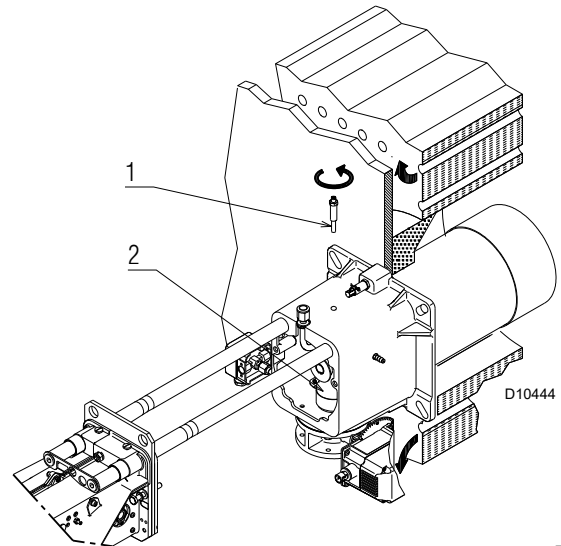

Fig. 13
- remove the screw 1)(Fig. 13) and extract the inner part 2) of the head.